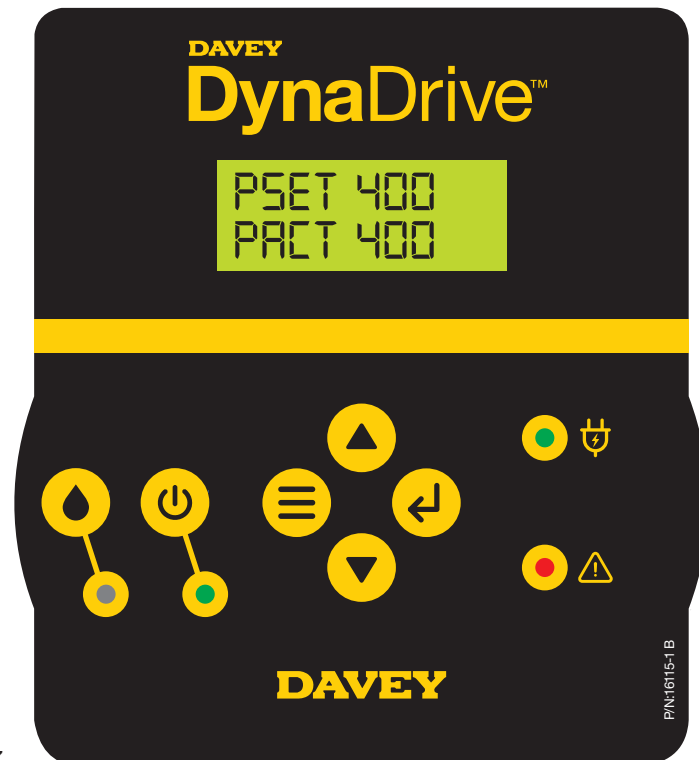

Figure 7.7
- The green  **Automatic LED** will turn off, see figure 7.7;